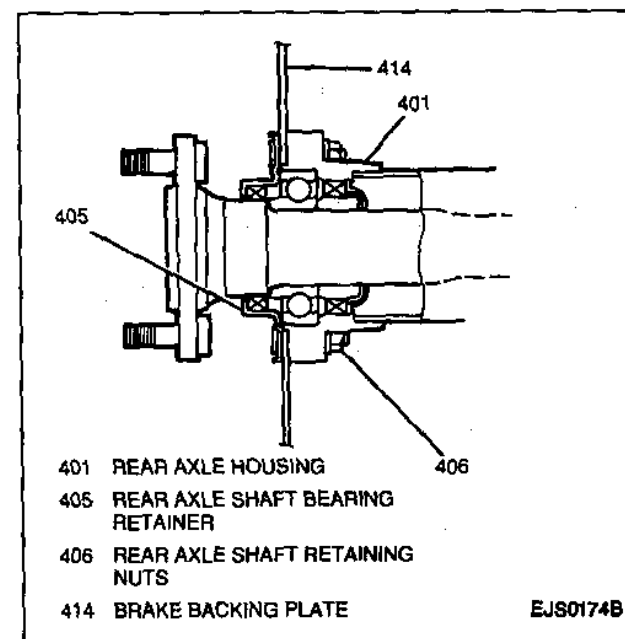

Figure 17—Rear Axle Shaft Installation
8. Rear axle shaft and bearing into the rear axle housing making sure the rear axle shaft bearing is firmly seated into the rear axle housing (Figure 17).
9. Four rear axle shaft retaining nuts to rear axle shaft retainer studs behind brake backing plate (Figure 17).